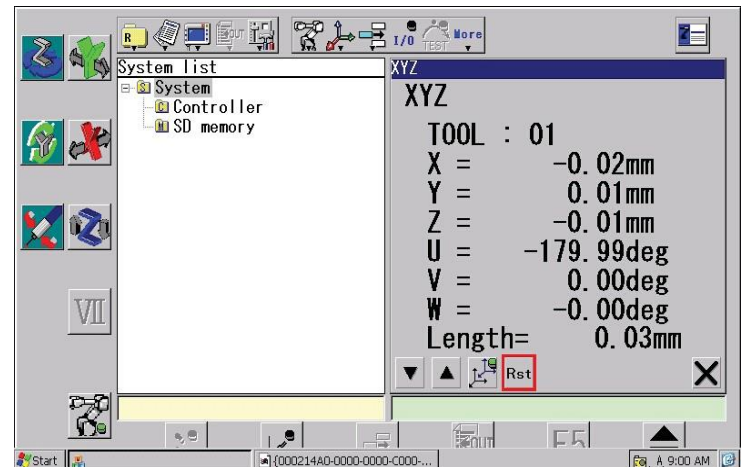

Figure 9
- Using the change window button move to the right window and using the cursor turn on the Relative position Icon. (Figure 9)